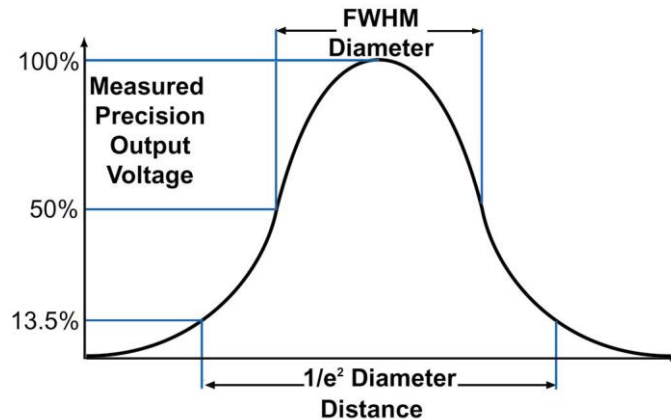

Figure 4.1 Moving-Slit Beam Width Analysis
4.1.1.1 Moving-Slit Beam Width Analysis, also known as Clip-Level Beam Width Analysis, is illustrated in Figure 4.1. The observed peak is the 100% level and the measurement baseline is the 0% level. The beam width per the ISO standards is defined as the spatial width at the 13.5% ($1/e^2$) level (for a TEM_{00} beam). It is also common in practice to use the beam size at other %-irradiance levels, or “clip” levels, such as, for example, the 50%, or full-width-half-max (FWHM) beam width, and is designated as d_{slit} .